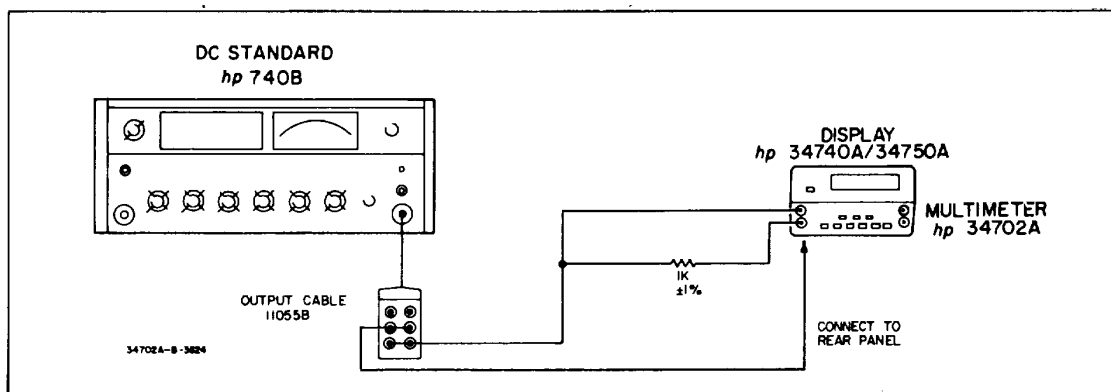

Figure 5-2. Effective Common Mode Rejection
a. Disconnect all previous connections to the Model 34702A input and connect the equipment as shown in Figure 5-2. Set the dc standard for a +10 V output. Set the 34702A to the I V range.